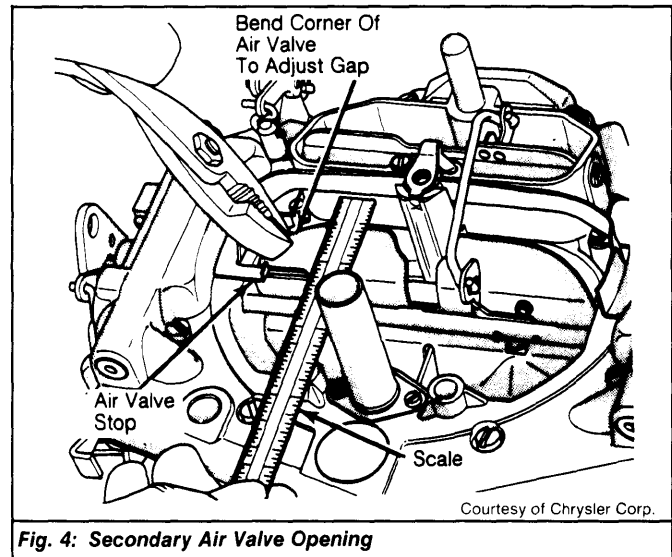

Fig. 4: Secondary Air Valve Opening
1) Hold secondary air valve wide open. Measure specified gap between raised edge (short side) of air valve and air horn wall. See *Fig. 4.*